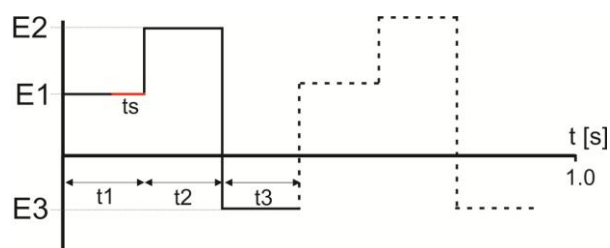

Fig. 8. Operation principle of pulse mode.
Parameters in pulse mode (Fig. 8):
5. Estimate the potential value where the best results were obtained and desired product was formed with the highest yield (follow the EIC of the m/z ratio of the selected compound) (Fig. 8).